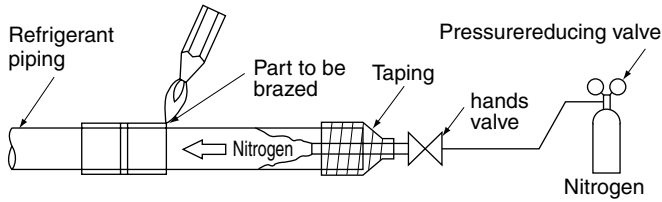

Fig. 7
- Perform nitrogen substituent or apply nitrogen into the refrigerant piping (see NOTE 1) in the case of refrigerant piping blazing (see NOTE 2). Then perform the flare connection of the indoor unit. (Refer to Fig. 7)